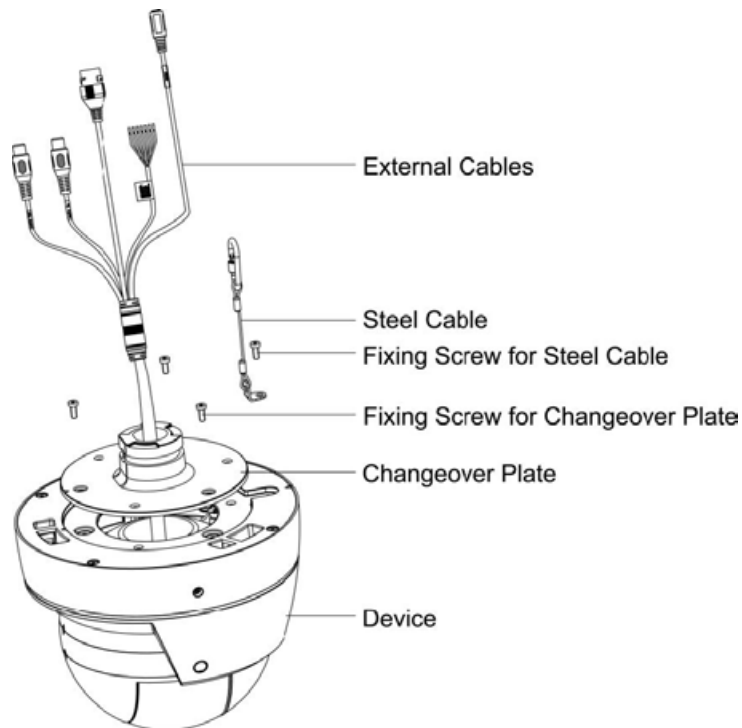

Fig 2.3
6. Use 3 fixing screws to fix the changeover plate onto the device and use one fixing screw to fix the steel cable onto the device. Lock the screws firmly (See Fig 2.3).